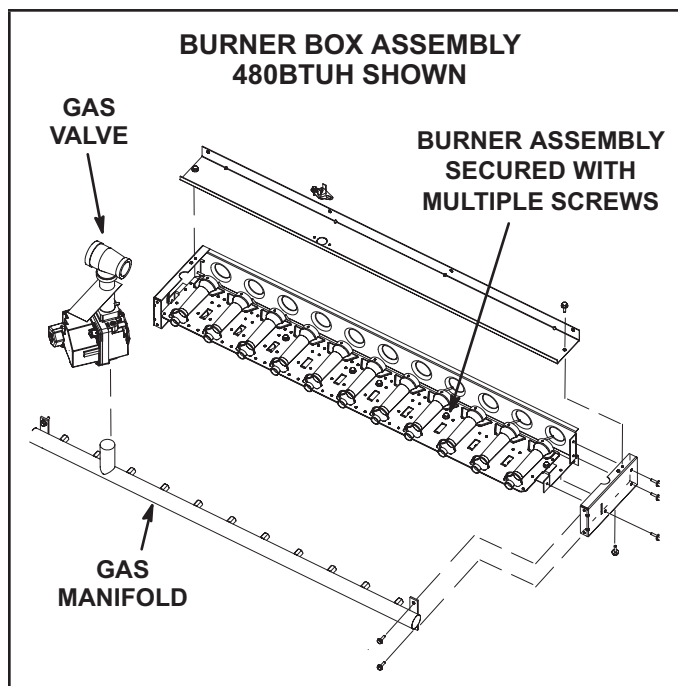

FIGURE 36
- 3 - Remove screws securing burner assembly to burner support and remove assembly. See FIGURE 36. Clean as necessary.